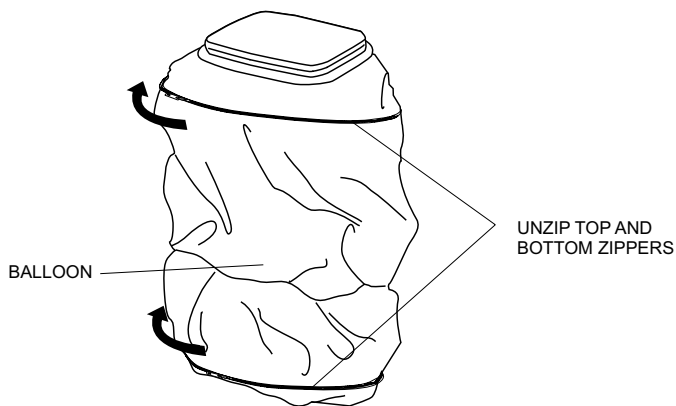

Figure 31. Unzipping Balloon
1. Unzip the top and bottom of the balloon. See Figure 31.